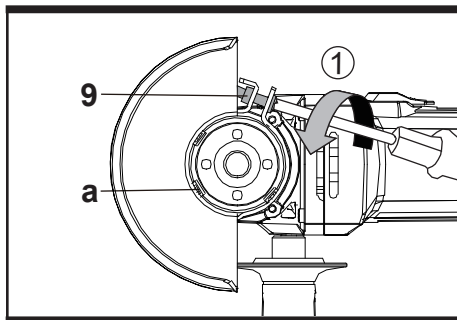

Рис. B1
9. Wheel guard clamping screw (See Fig. B1)